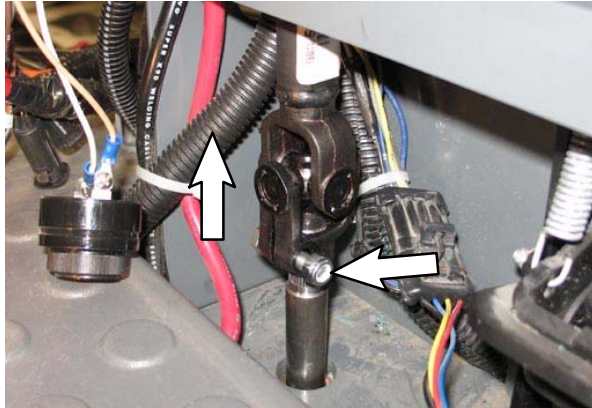

FIG. 15
30. Loosen the hardware to securing the steering shaft to the lower steering shaft and remove the steering shaft from the lower steering shaft. (Fig. 15)